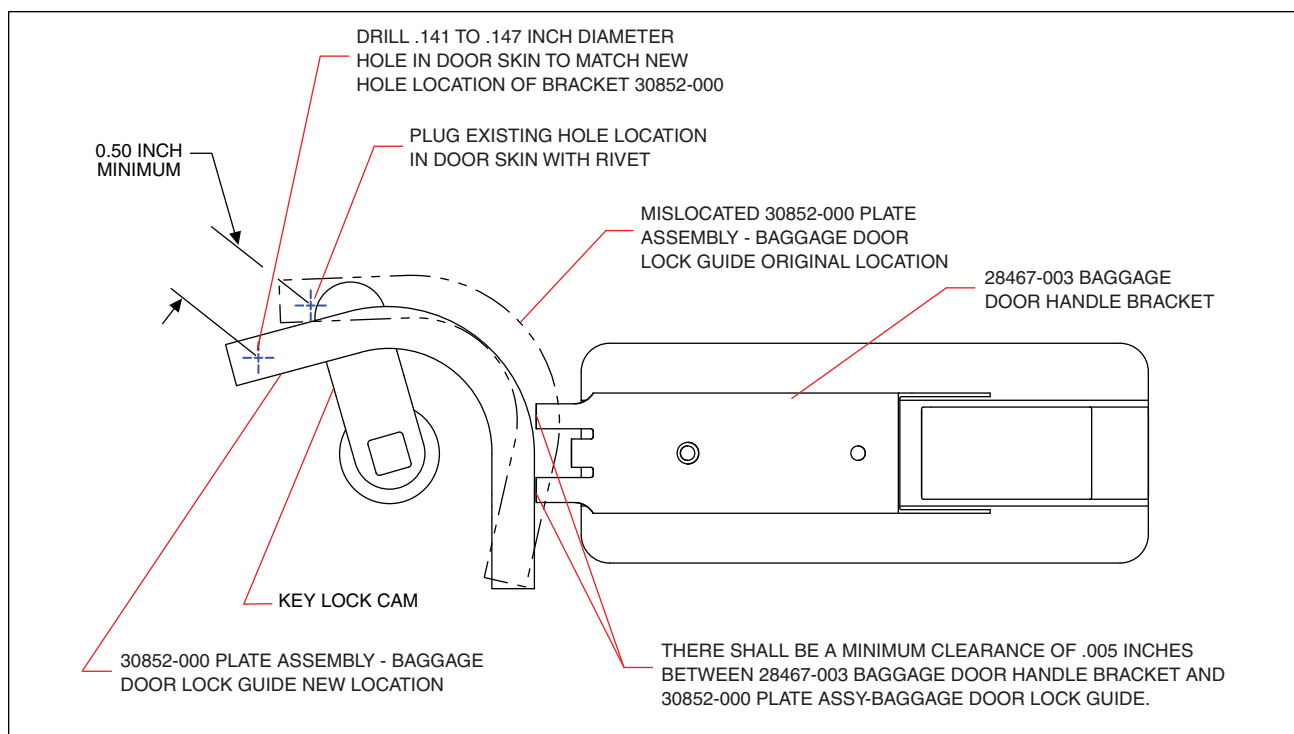

Figure 4-11b. Forward Baggage Door Latch Assembly
CAUTION: A .005 INCH MINIMUM GAP MUST EXIST BETWEEN BRACKET P/N 28467-003 AND THE DOOR LOCK GUIDE, P/N 30852-000, AND THIS GAP MUST BE MAINTAINED DURING THE ENTIRE LATCHING SEQUENCE. SEE FIGURE 4-11B.
- (6) Verify that a .005 inch minimum gap exists between the bracket P/N 28467-003 and door lock guide P/N 30852-000 as shown in Figure 4-11b. Verify that this clearance is maintained throughout the entire door latching and locking sequence.
- (a) If required clearance is maintained, proceed to step (7).
- (a) Remove upper screw, and loosen lower screw. Rotate the 30852-000 Plate Assembly - Baggage Door Lock Guide as needed to achieve clearance as shown in Figure 4-11b.